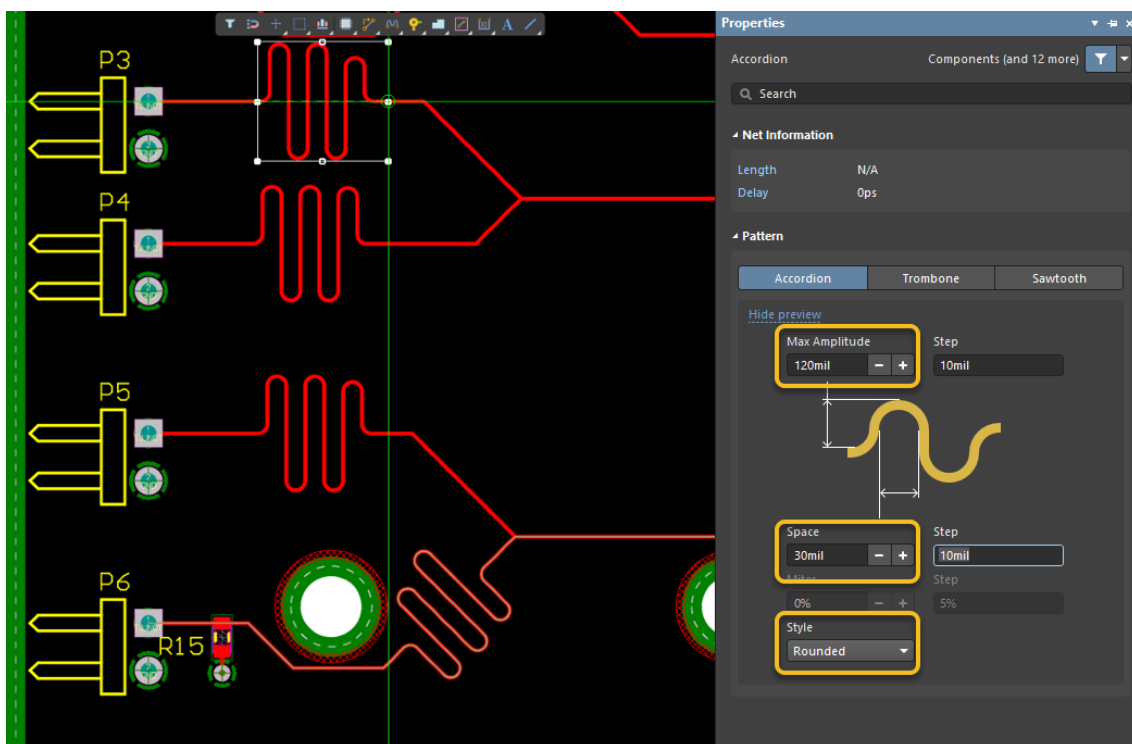

Figure 26. Tuned T-Junction xSignal Class
63. You will length tune all four *TJUNCT* xSignals, as shown in Figure 26.
66. Select the Pause icon  to continue the length tuning. Complete length tuning on all 4 xSignals so that they now adhere to the length rule, as shown in Figure 26.